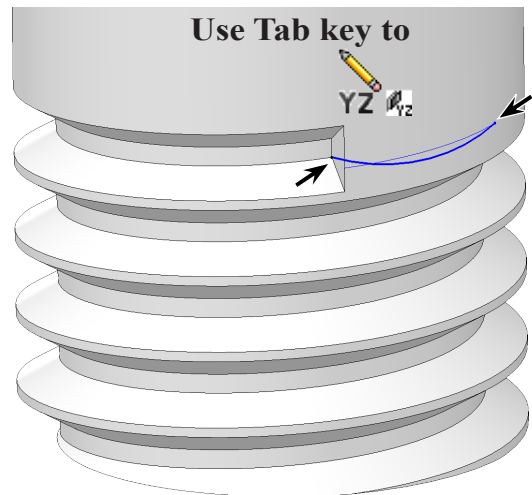

Fig. 51
Step 1. Rotate view to better view of helix, Fig. 51. Use Left Arrow key  three times and Down Arrow key  once..
Step 3. Click 3 Point Arc  (S) in the Arc flyout  on the Sketch toolbar.
Step 4. Sketch arc with start endpoint at vertex of bottom thread root at end and end endpoint of arc at right end of Curve with radius in between points, Fig. 51. Use Tab key sketch along the  axis.